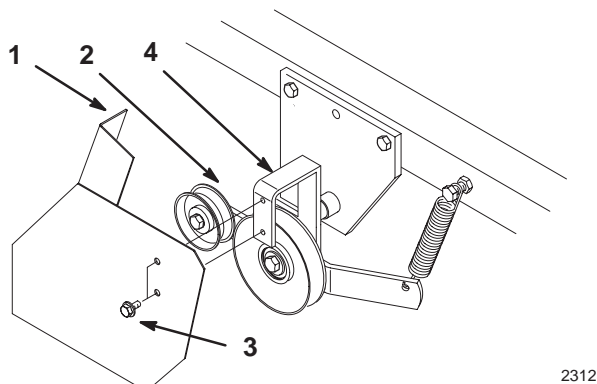

Figure 33
8. Install belt guard to mid-mount bracket with 2 self tapping bolts (1/4 x 1/2 inch) (Fig. 33).